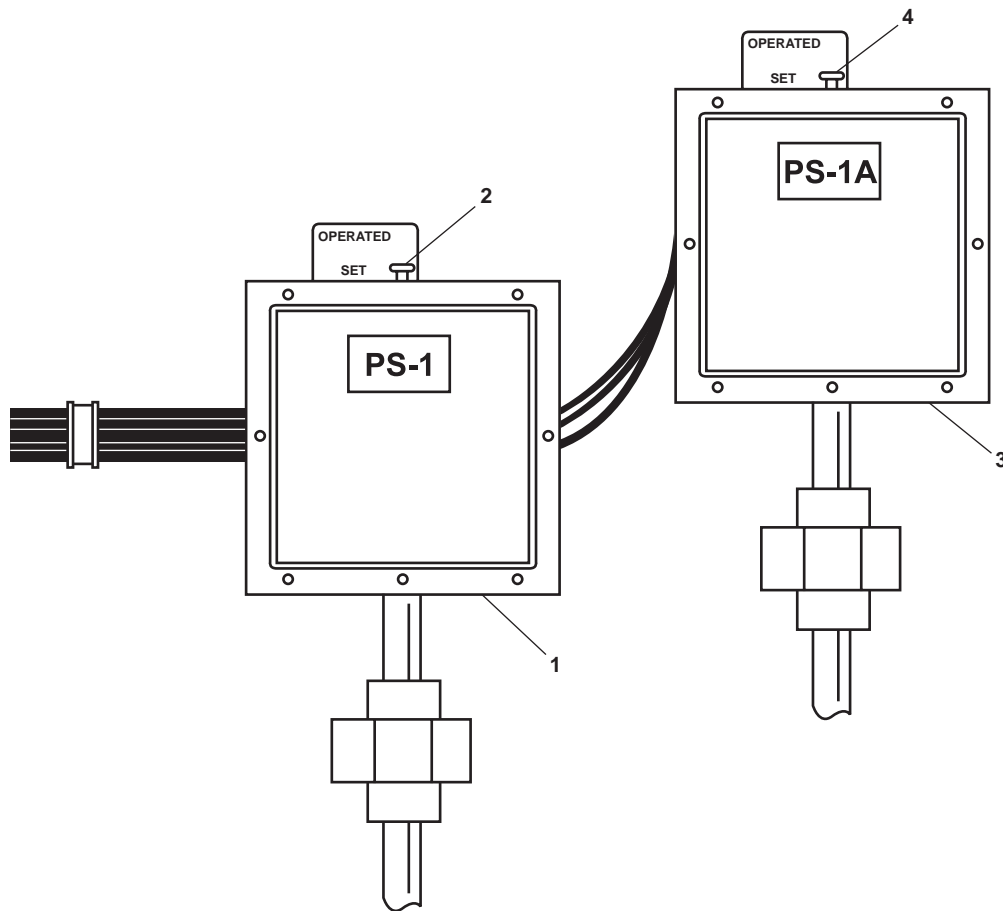

Figure 1. Testing of FM-200 Pressure Switches PS-1 and PS-1A
1. Ensure that the equipment controlled by pressure switch PS-1 (figure 1, item 1) identified below is operating normally (TM 55-1925-273-10):
3. Manually operate pressure switch PS-1 (figure 1, item 1) by pulling up on the plunger (figure 1, item 2) to the OPERATED position.
6. Verify that the equipment controlled by pressure switch PS-1 (figure 1, item 1) identified in step 1 of this work package is no longer operating.
7. Return pressure switch PS-1 (figure 1, item 1) to the SET position by pressing down on the plunger (figure 1, item 2).
10. Manually operate pressure switch PS-1A (figure 1, item 3) by pulling up on the plunger (figure 1, item 4) to the OPERATED position.
12. Return pressure switch PS-1A (figure 1, item 3) to the SET position by pressing down on the plunger (figure 1, item 4).